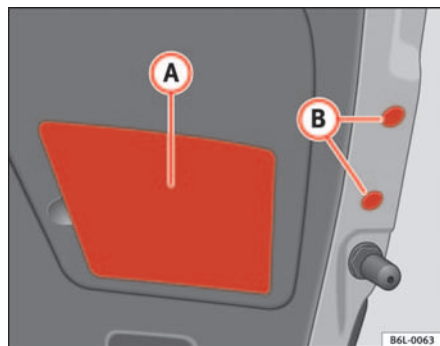

Fig. 163 Rear light on tailgate
- Fit the caps **(B)** and the plastic cover **(A)** ⇒ fig. 163.